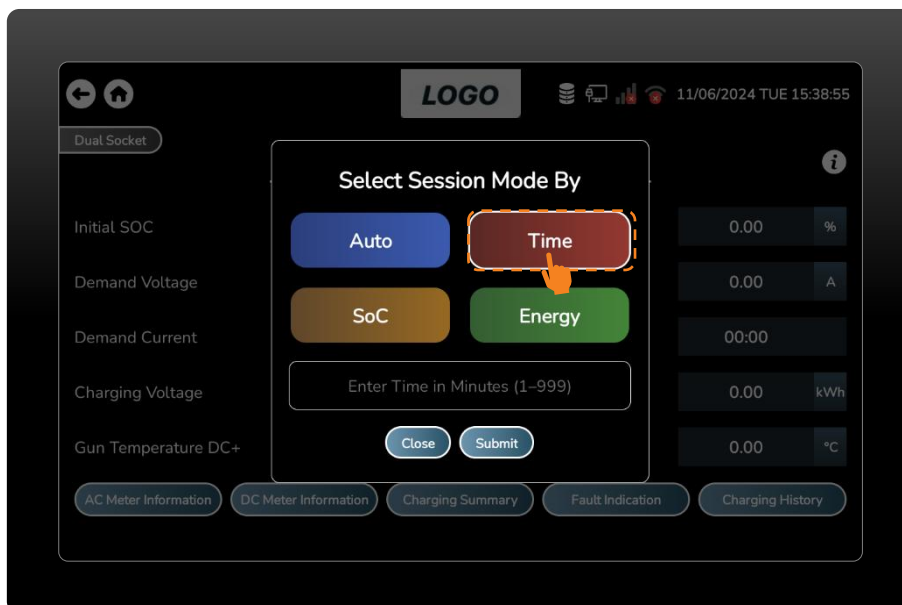

Figure 58 Time Mode Selection.
- Time mode allows the user to specify a charging time ranging from 1 to 999 minutes, allowing the user to charge the vehicle at a certain time. (Figure 58)